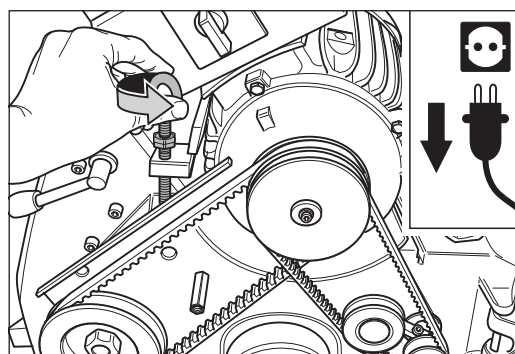

Fig. 43 Release the tension of the V-belts by turning the eye bolt at the motor counterclockwise.
- 6 Release the tension of the V-belts by turning the eye bolt at the motor counterclockwise (Fig. 43).